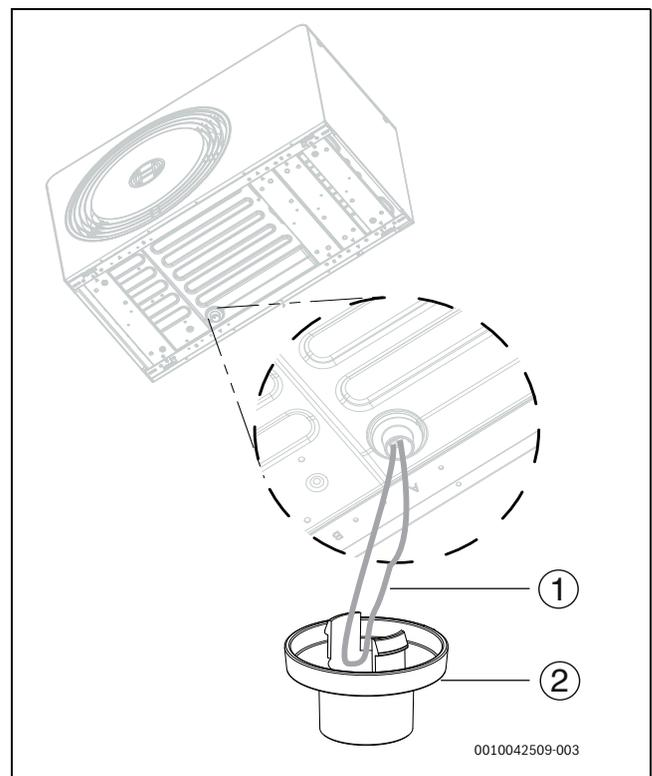

Fig. 25 Installation of drain connector
3. Pull out the loop of the drip tray heater and push it through the drain connector (→bild 25). Attach the drain connector to the heat pump.